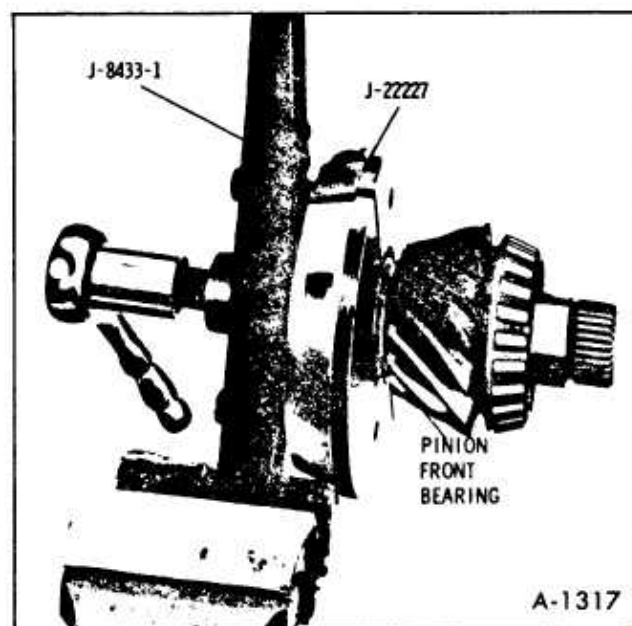

Figure 29-Removing Pinion Front Bearing
1. Remove the pinion front bearing and selective shim as shown in Figure 29. Bearing can be removed without Tool J-8433-1 if a press is available.